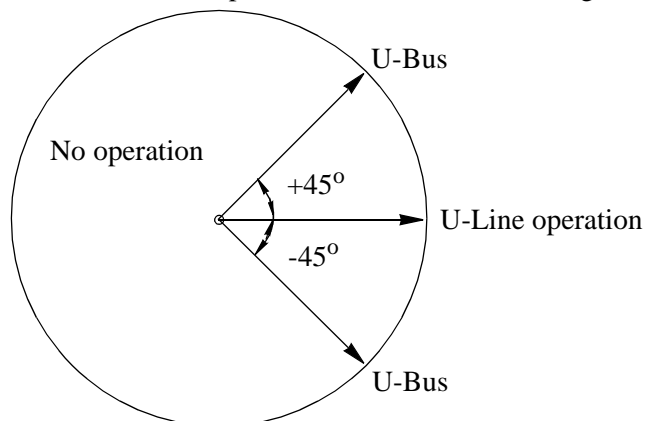

Figure 9: Test of phase difference.
By changing the phase angle on U1 connected to U-bus, between +/- 45° you can check that the two outputs are activated for a PhaseDiff lower than 45°. It should not operate for other values. See Figure 9:.
- 4 Apply a PhaseShift setting of 10 deg. Change the phase angle between +55 and -35 and verify that the two outputs are activated for phase differences between these values but not for phase differences outside. See Figure 9:.